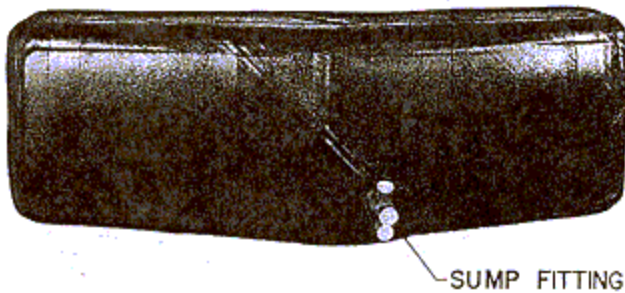

Figure 200—Front Wing Fuel Tank—Bottom View
12. Remove the fuel tank, from the tank compartment taking care not to damage the filler neck, gage, and vent line fittings on the tank. (See figures 200, 201, 202, and 203.)